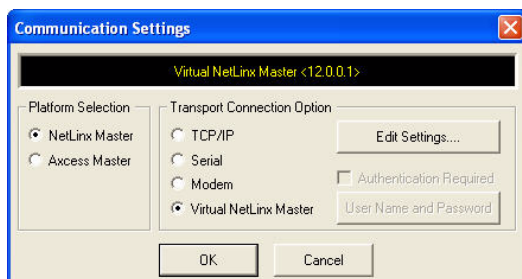

FIG. 104 Communications Settings dialog box
2. Click the **Communications Settings...** button to open the *Communications Settings* dialog box (FIG. 104).